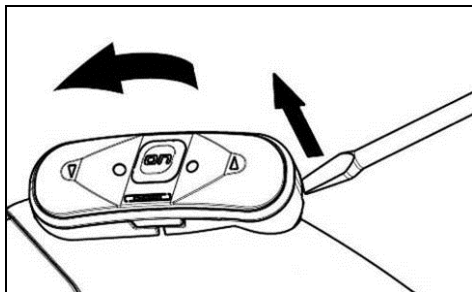

Fig. 21
- Remove the keypad from the shell, as indicated in fig. 21.